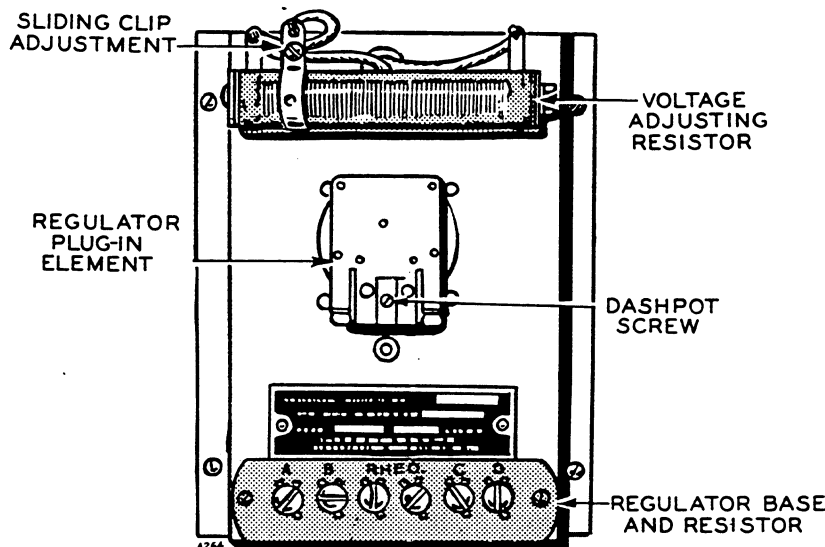

FIG. 21. - REGOHM VOLTAGE REGULATOR ADJUSTMENT
6. Set the adjustable resistor, which is mounted either separately or on the regulator base, see Figure 21., to obtain the rated a.c. voltage. Very little movement of the sliding clip will be necessary. Be sure to retighten the clip after the adjustment is completed.
REGOHM VOLTAGE REGULATOR DASHPOT ADJUSTMENT. - If a hunting voltage condition exists, after the Governor has been adjusted, the Voltage Regulator dashpot must be adjusted. See the illustration, Regohm Voltage Regulator Adjustments, shown in Figure 21.